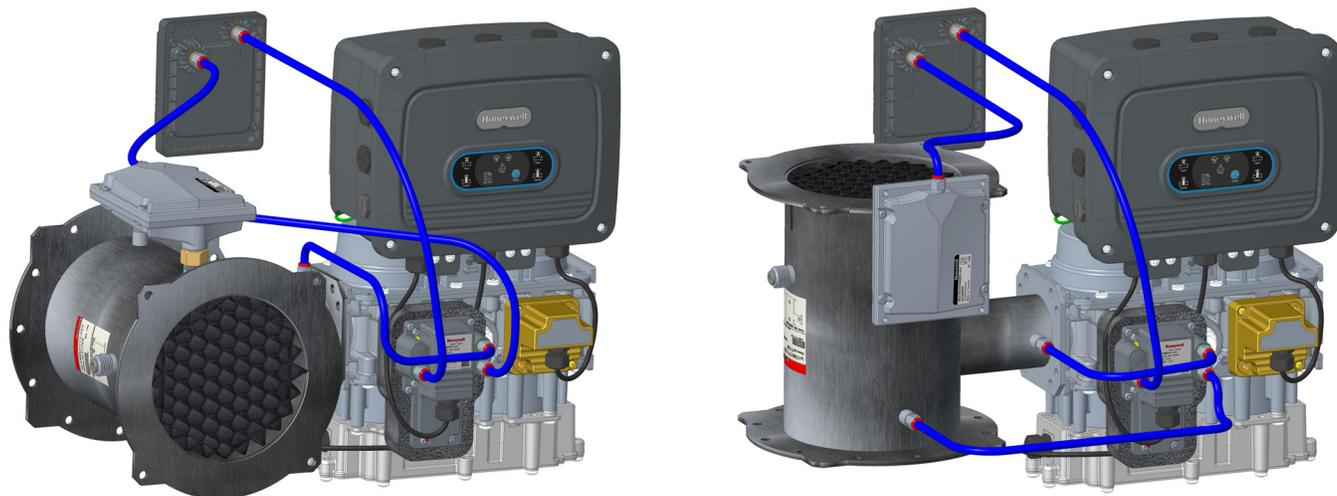

Fig. 17. Premix installation with valve, mixing unit, pre-filter, heat exchanger and FARMOD insulation.
The filter must be mounted between the V2MU mixing unit and the valve FARMOD in the air pulse line. When the Heat Exchanger is used, it must also be mounted between the V2MU mixing unit and the valve FARMOD, with the Heat Exchanger first and the filter second. Refer to Fig. 17.
The heat exchanger can be directly mounted to the V2MU mixing unit as shown in Fig. 17 and can be mounted in either a vertical or horizontal position, depending on the appliance configuration and available space. For remote mounting the heat exchanger, the customer must provide the appropriate bracket and/or install and connect as part of their appliance offering. Pulse line tubing and fitting between the mixer and heat exchanger is then required.
- The Heat Exchanger and the filter must be mounted between the V2MU mixing unit and the FARMOD, with the Heat Exchanger first and the filter mounted as close to the FARMOD as possible. Refer to Fig. 17.